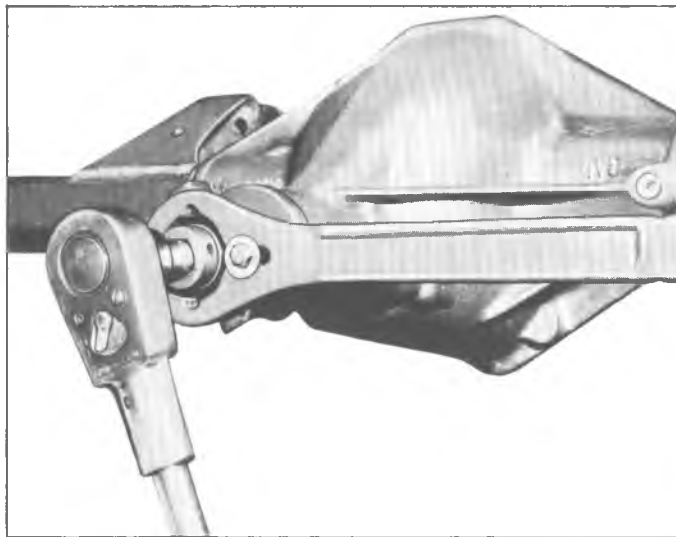

Fig. 59—Removing Nut from Drive Pinion
6. Install Tool J-8614-11 on pinion flange and remove pinion flange self-locking washer faced nut as shown in figure 59. (Position J-8614-11 on flange so that the four notches are toward flange.) Save scribed nut for reinstallation.